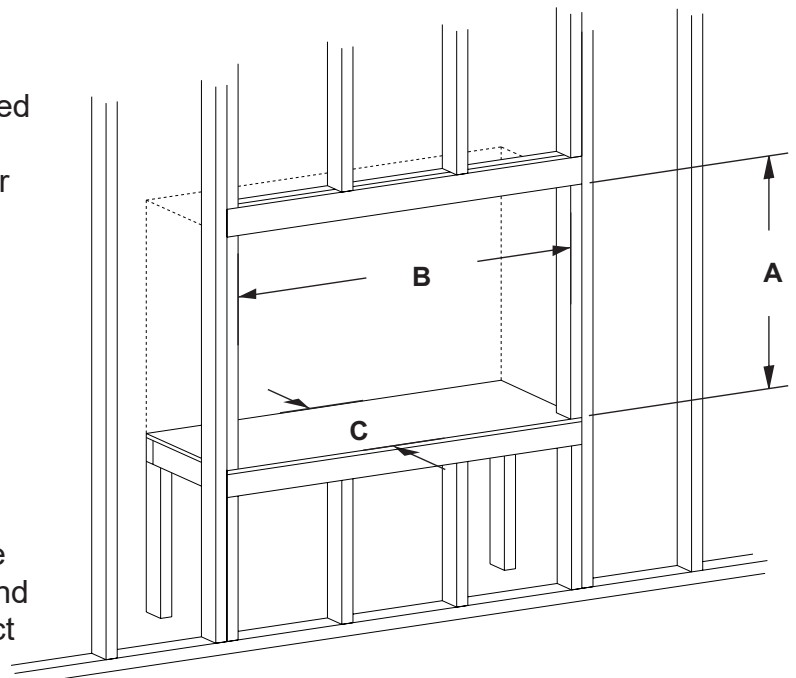

Figure 17 - Raised Installation Rough Opening in a Normal Wall
- Use Figure 17 for a raised (elevated) installation. Provide adequate support to the bottom of the fireplace.
A raised installation may also be made in a corner with the hearth elevated as shown in Figure 17 (page 14) *Raised Installation*.